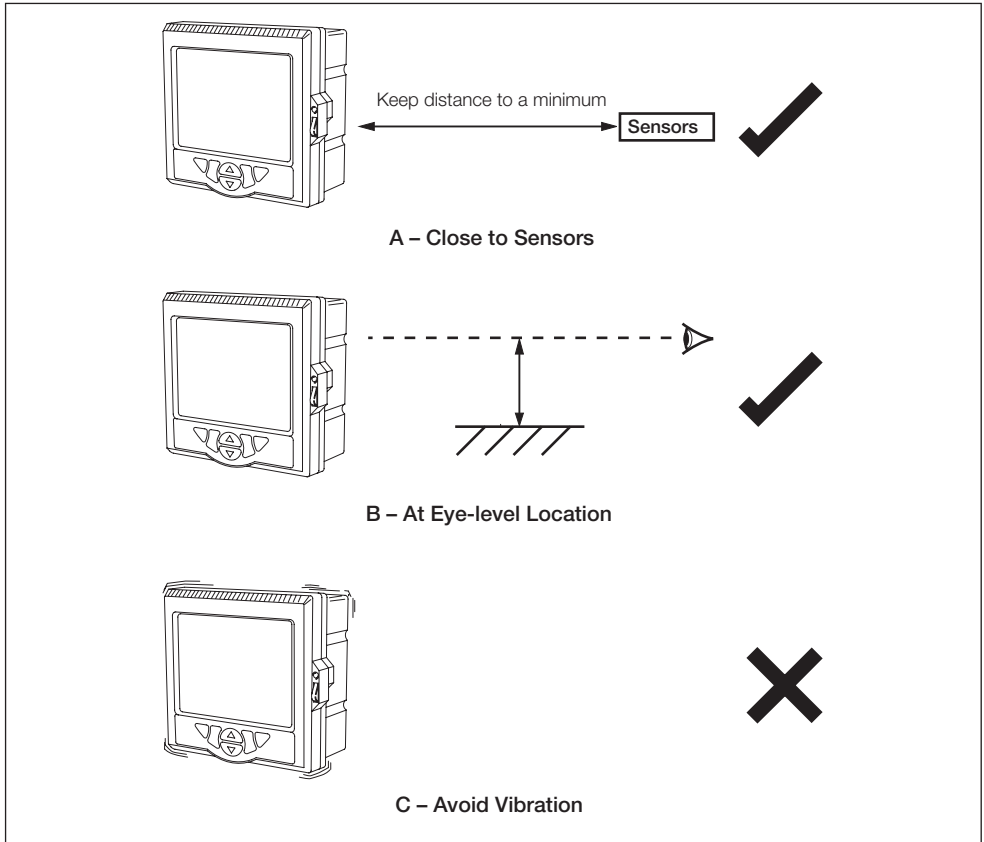
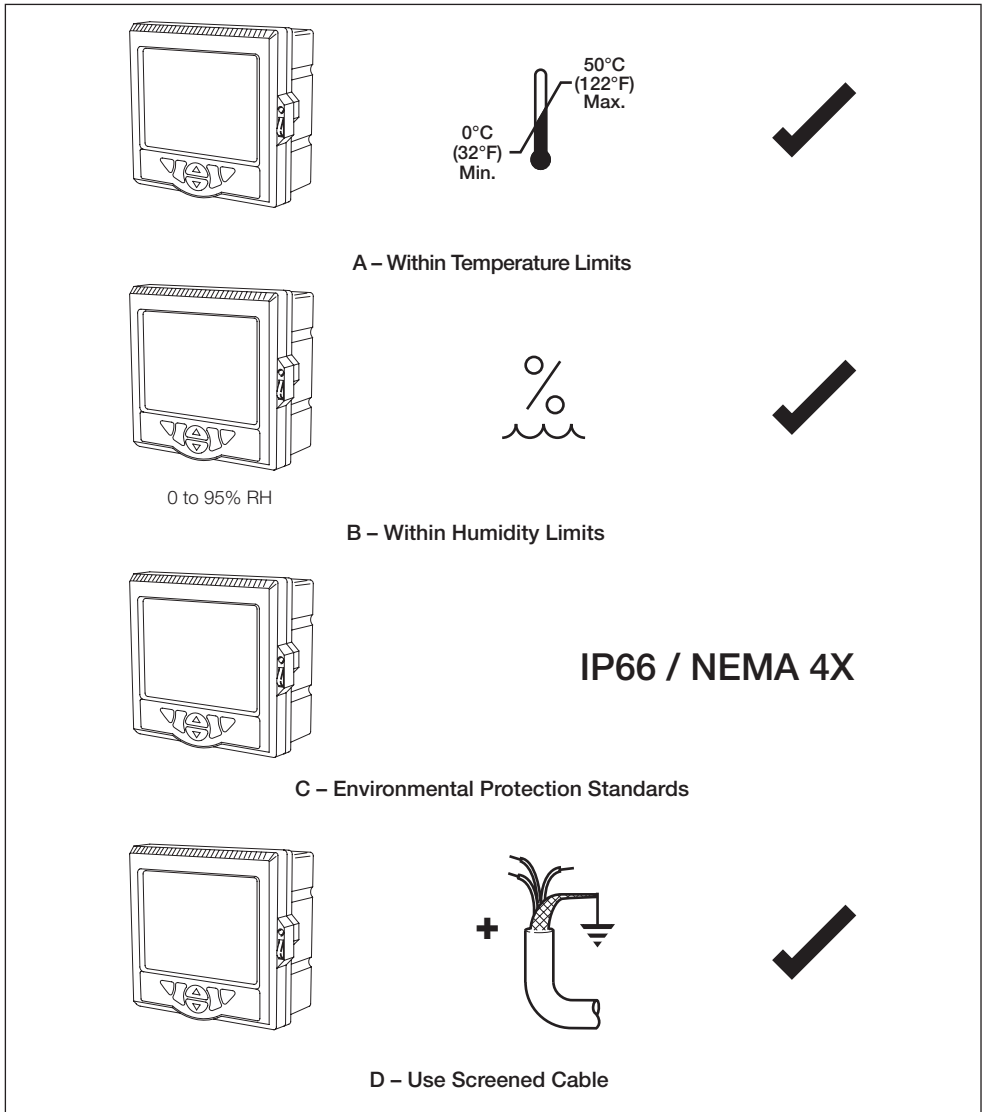

Fig. 2.1 General Siting Requirements
Fig. 2.2 Environmental Requirements
2.1 Siting – Fig. 2.1 and Fig. 2.2